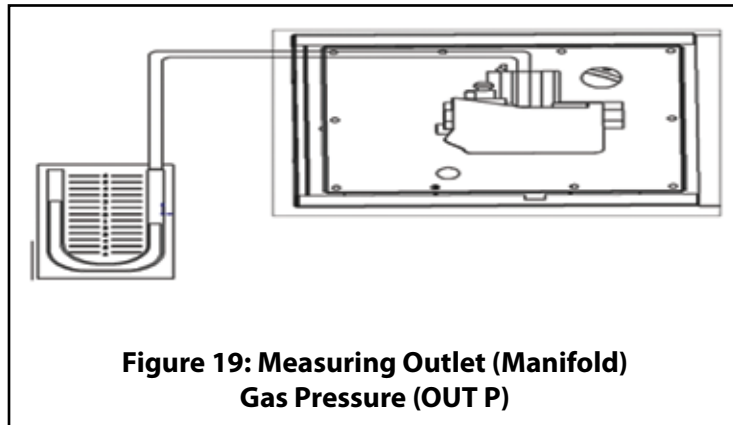

Figure 19: Measuring Outlet (Manifold) Gas Pressure (OUT P)
7. Connect the 1/8" (3.175 mm) ID flexible tubing to the positive side of the "U" tube monometer or pressure gauge and the other end of the tubing to the port marked "IN P" on the gas valve as shown in Figure 19.